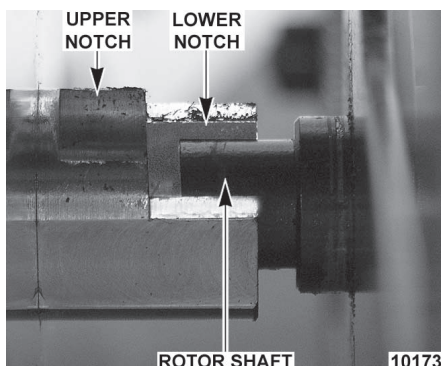

Fig. 5
STEP 5: Nudge rotor toward the drive arm. Non-drive end of rotor shaft falls into the lower portion of support bearing hub (Fig. 5). Drive end of rotor shaft is driven into center hole of drive arm.
Toggle the Main Power switch on the front panel of the oven to the ON position; the red indicator light on the switch comes on (Fig. 5).